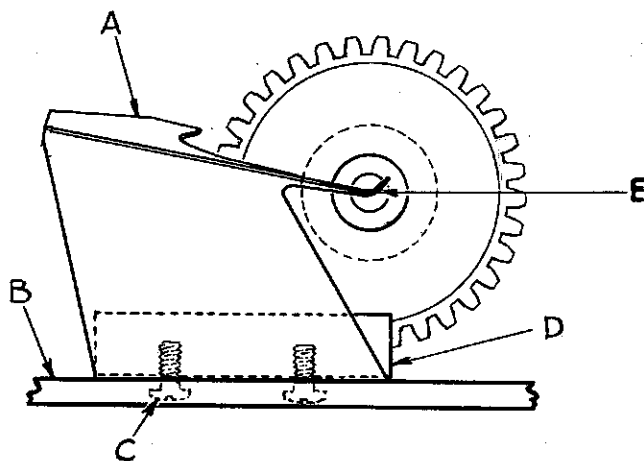

Fig. 21
6. Replace housing cover. Check position of oil distributing plate. This can be done by removing the large plug screw at the right end of the gear housing and looking through the hole. The low point of the oil distributing plate (A, Fig. 21) must be even with or slightly below the center of shaft (E) and just touching it. This is a very important adjustment, as the functioning of the automatic lubrication of the lower part of the machine depends upon it.